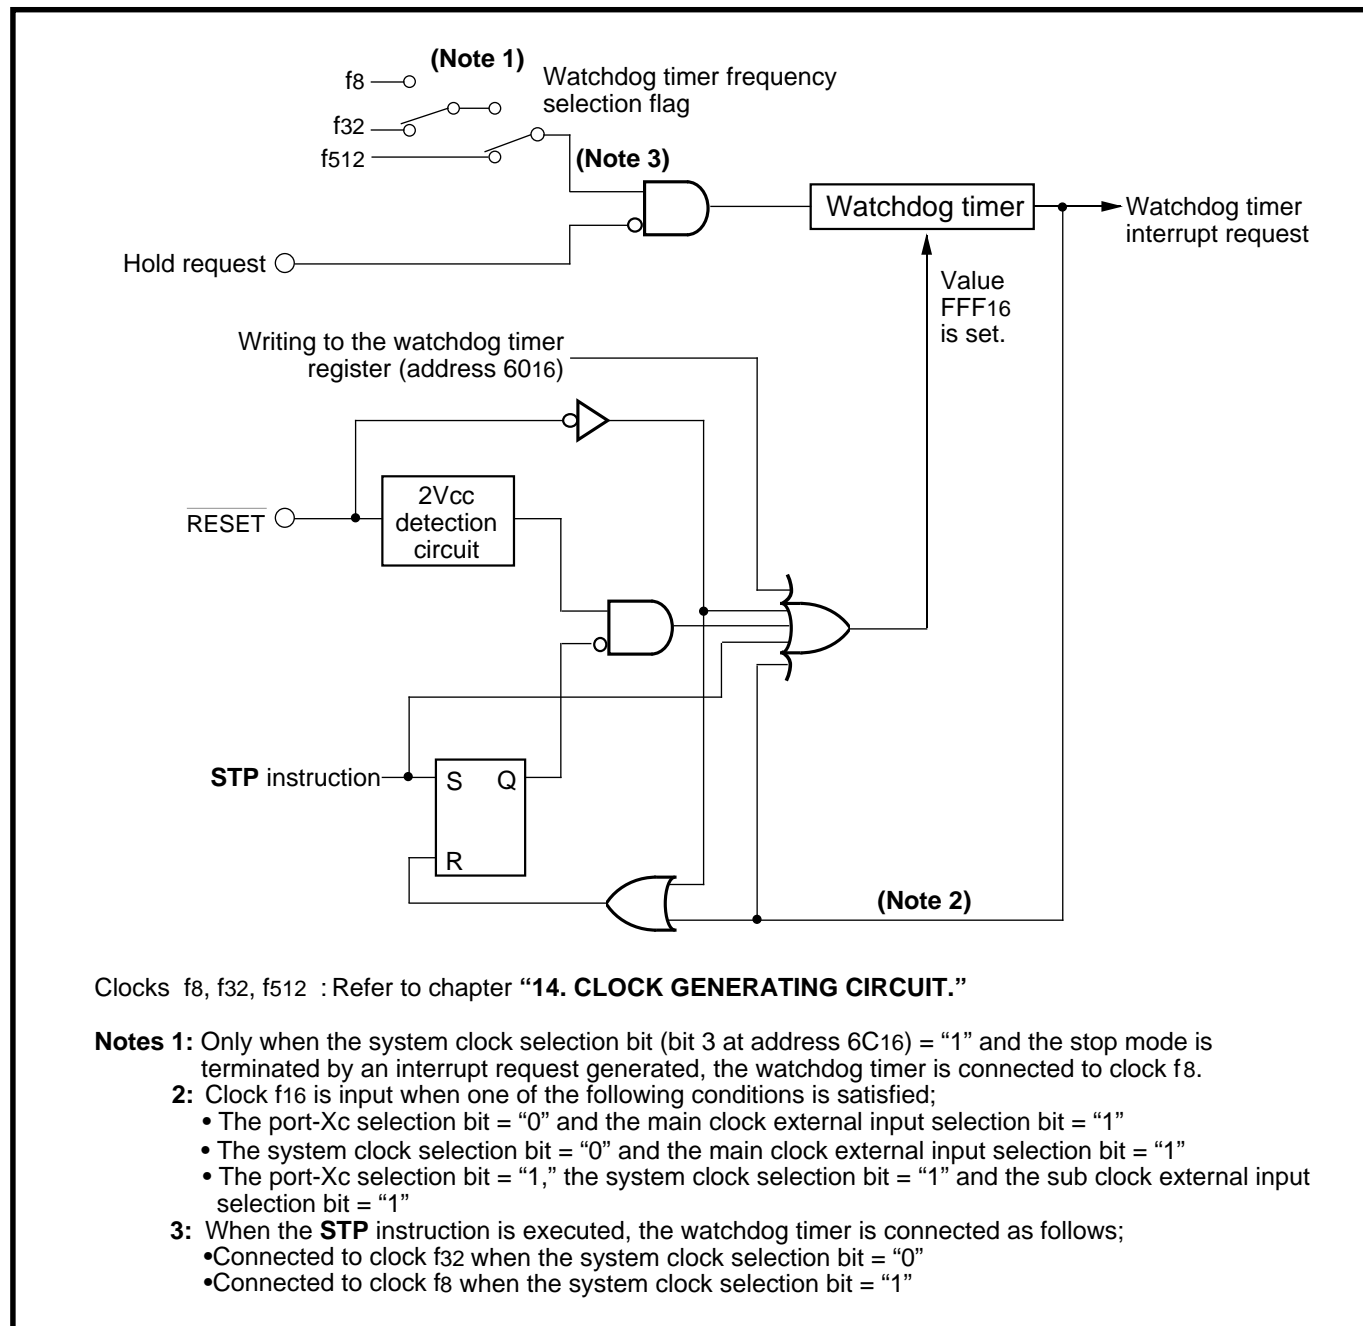

Fig. 10.1.1 Block diagram of watchdog timer
Figure 10.1.1 shows the block diagram of the watchdog timer.
2. In order to stop the watchdog timer in the hold state, the count source which is actually counted by the watchdog timer is the logical product of two signals. One is the inverted signal input from pin $\overline{\text{HOLD}}$, and the other is a count source which is selected by the watchdog timer frequency selection flag (clock f32 or f512). (Refer to **Figure 10.1.1.**) Accordingly, there is a possibility that counting is performed when pin $\overline{\text{HOLD}}$'s input signal level changes during a duration which is shorter than 1 cycle of the selected count source (clock f32 or f512).